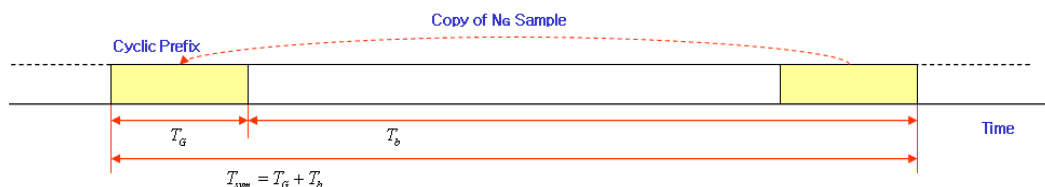

Fig. 7 CP (Cyclic Prefix) concept
Furthermore, the introduction of the cyclic prefix (CP) can completely eliminate inter-symbol interference (ISI) as long as the CP duration is longer than the channel delay spread. The CP is typically a repetition of the last samples of the data portion of the block, which are appended to the beginning of the data payload as shown in Fig. 7.